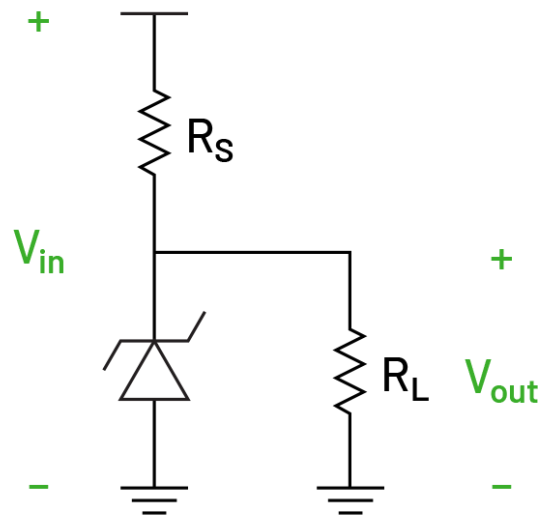

Figure 1. Zener voltage regulator circuit diagram.
1. Build the Zener voltage regulator circuit in Figure 1. using the corresponding resistor values. The source resistor (R_s) is a current limiting resistor to protect the Zener diode when there is no load attached to the circuit. To measure line regulation the load resistance needs to be infinite. Leave R_L open (no resistor connection for R_L). Make sure to have the diode in the correction orientation. Write down the listed Zener voltage of the diode from the diode datasheet. Use the DC power supply as the input source (V_{in}) and the DMM to measure the output across Zener diode (V_{out}).
4. To calculate the load regulation of the circuit, vary R_L using the resistor values listed above Figure 1. Set the input voltage (V_{in}) to be 6 V. Record the voltage and current across the load resistor and record the measurements in Table 2.
1. Use the same regulator circuit in Figure 1 with a suitable load resistor determined by the load regulation experiment in Task 1. Connect the AFG to the input of the circuit (V_{in}). Connect the channel 1 probe of the 2 Series MSO to the input and the channel 2 probe to the load resistor (V_{out}).